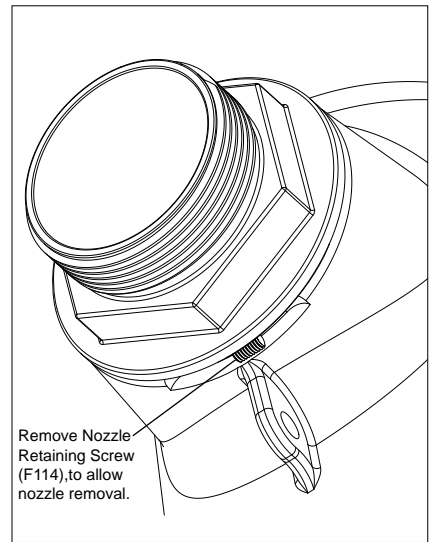
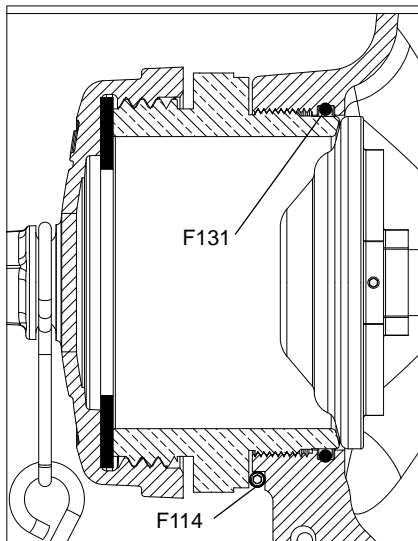

Fig. 3C
Fig. 3E
3. Use a drift punch and hammer to install a new Nozzle Retaining Screw (F114), as shown in Fig. 3C or Fig.3E.